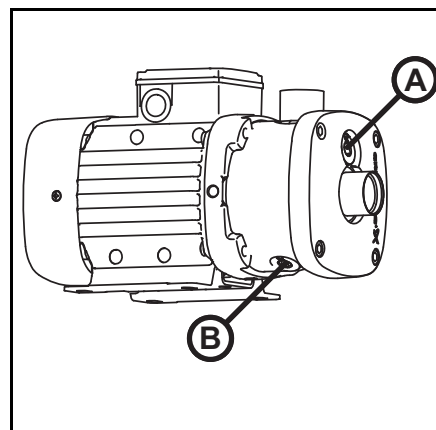

Figure 10 - High Efficiency Heat Exchange Water System
- Bleed pump of air (refer Figure 10 page 19 for starting instructions).